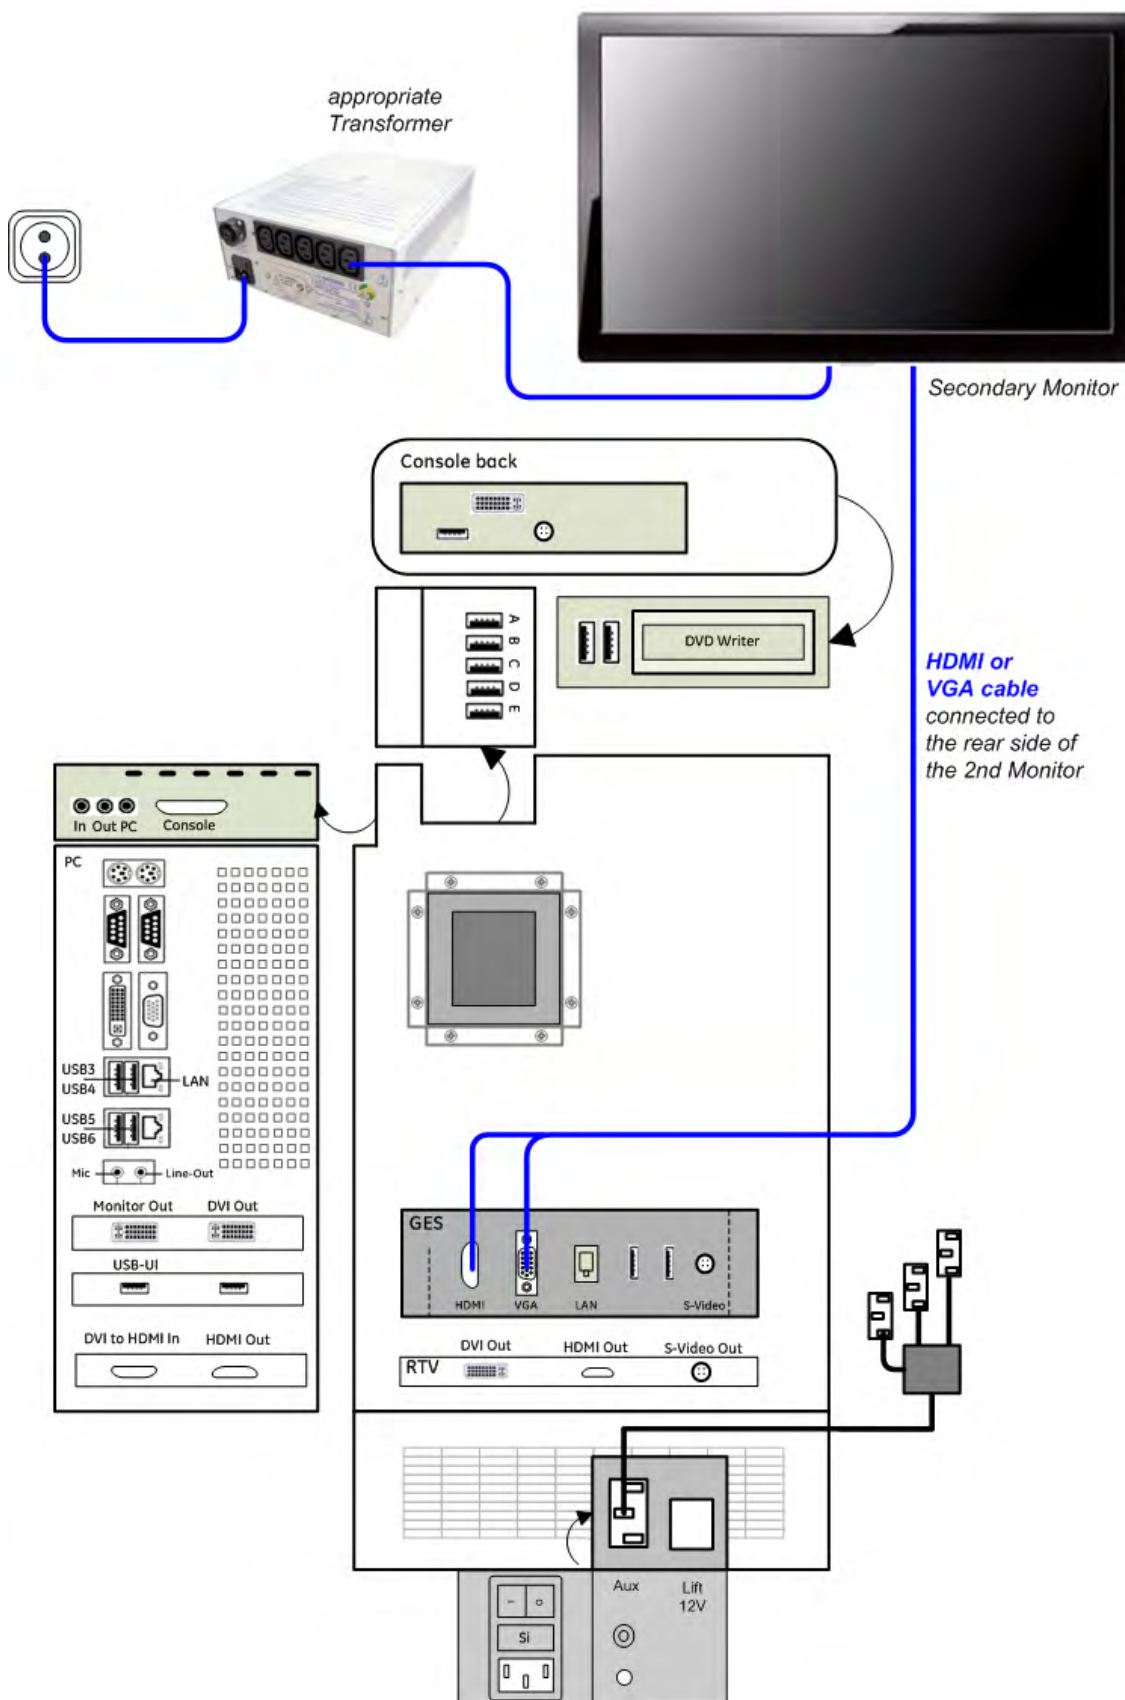

Figure 3-22 Connection Scheme - Secondary Monitor
2. Connect the Secondary Monitor according to connection scheme, see: Figure 3-22 on page 3-30.